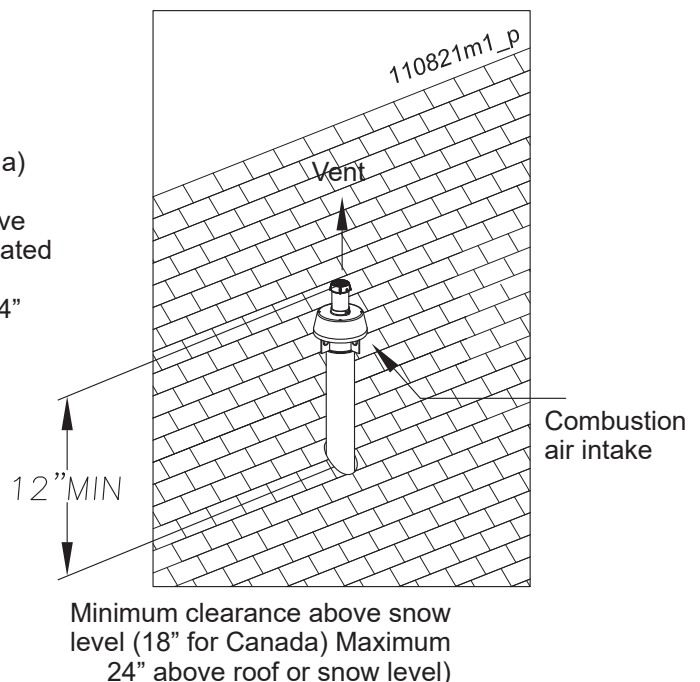

Figure 12-25 Concentric vertical terminations
1. Determine the best location for the termination kit (see Figure 12-25).
4. Cut one (1) hole into the structure to install the termination kit.